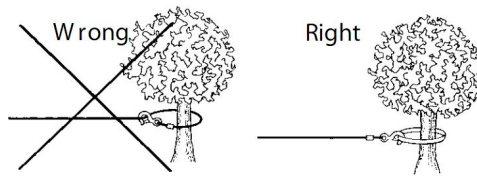

Figure 3
10. **NEVER HOOK THE WIRE ROPE BACK ONTO ITSELF** because you could damage the wire rope. Use a nylon sling (Figure 3).